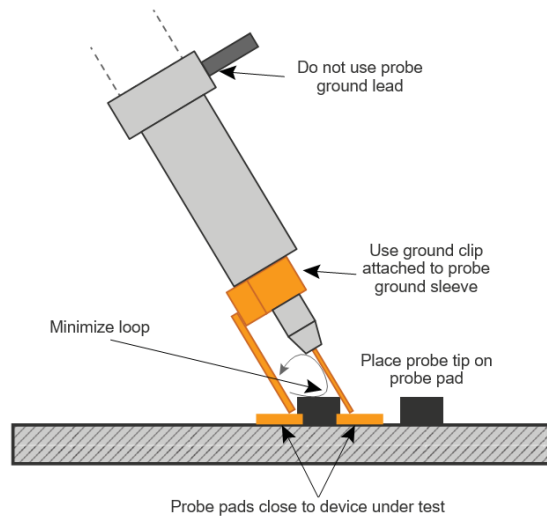

Figure 6 • Proper Oscilloscope Probe Measurement Technique
**Note:** When measuring the high frequency content switch node, care must be taken to avoid long ground leads. Measure the switch node by placing the oscilloscope probe tip through the Drain via and Source via (designed for this purpose). See **Figure 6** for proper probe technique and **Figure 5** for the location of  $V_{GS}$  and  $V_{DS}$  measure vias. Use a high voltage passive/differential probe for the  $V_{DS}$  measurement.